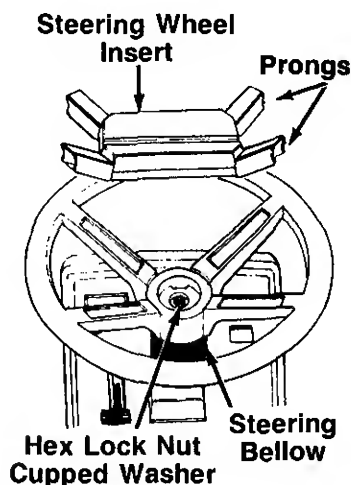

FIGURE 6A.—Model 754F
2. Attach one end of steering bellow to the steering wheel as shown in figure 6A, inset.
5. Place the washer with the cupped side down over the steering shaft. Secure with hex lock nut. See figure 6A.